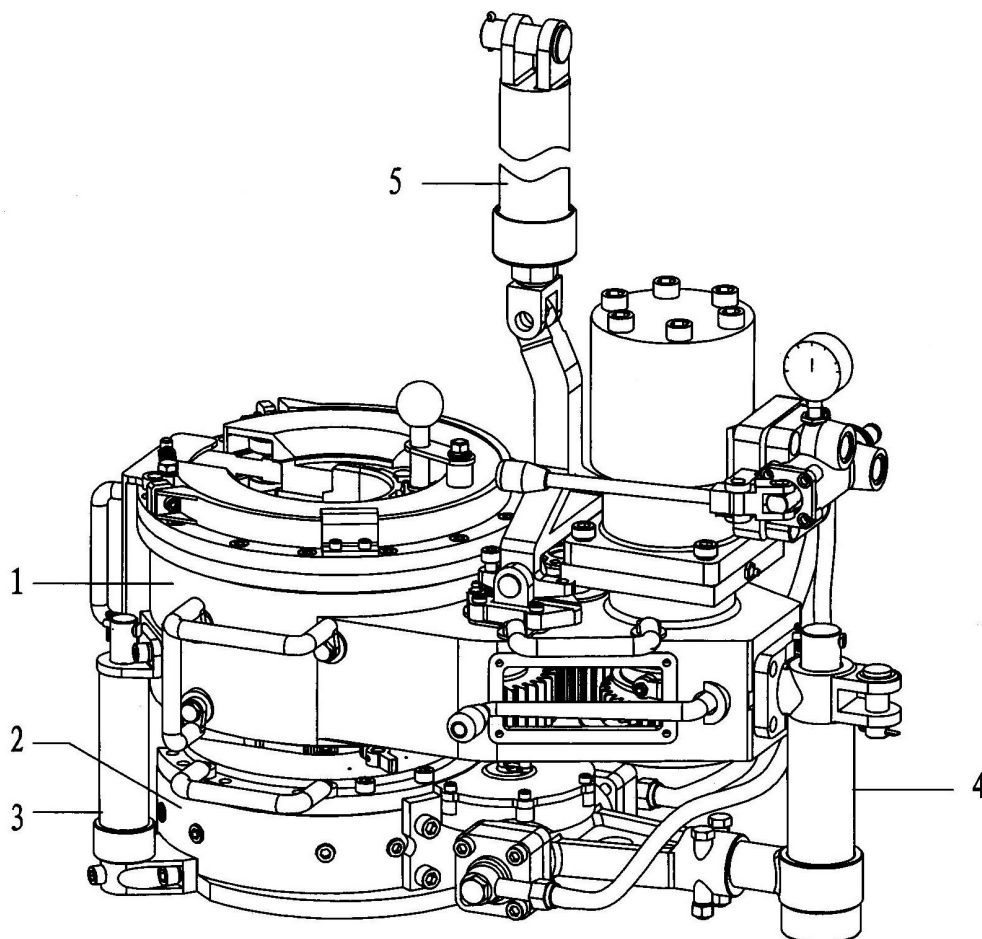

Fig.8-1
8.1 Assembly and parts list(Fig.8-1,Table 8-1)